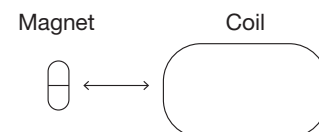

Figure 6.
13. With the magnet now oriented so its poles are parallel to the plane of the coil (see Figure 6), oscillate the magnet back and forth and record your observations.